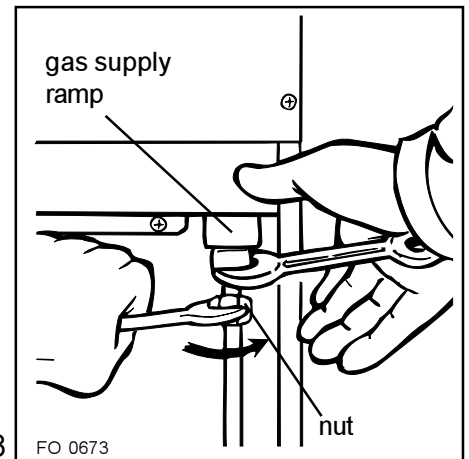

Fig.8
- tighten (fig.8) the nuts by means of a 22 mm. spanner, in order to keep the ramp in position and not to cause any distortion to the gas supply circuit.